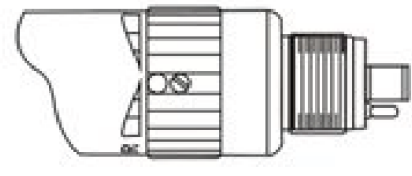

Fig. 4
- **STOP:** turn the rotating ring between F and R (Fig. 4).